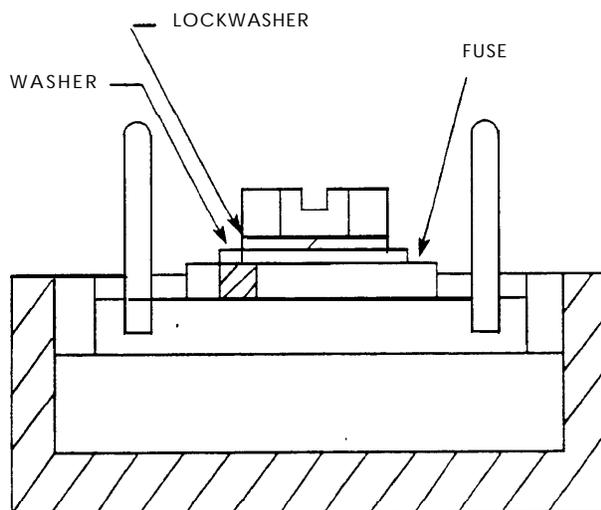

Figure 1. Typical Location of Fuse and Washers.
6.02 On a 100-600 fuse housing, remove the pull-out fuse assembly and tighten the two screws holding the fuse in position. Make certain that the washers and lockwashers are in the correct position as shown in Figure 1.